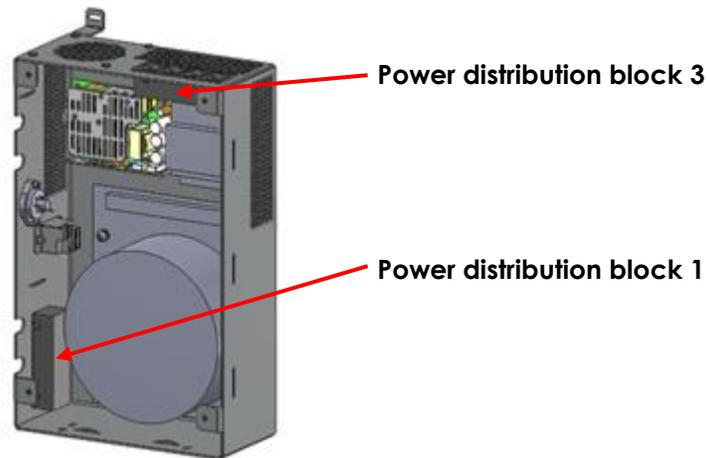

Figure 120: Power Box showing Power Distribution Blocks (internal view pictured for clarity)
12. Connect the following cables to power block 1 (refer to Figure 120):
5. Disconnect all the cables connected to power distribution block 1 and power distribution block 3 (refer to Figure 120).